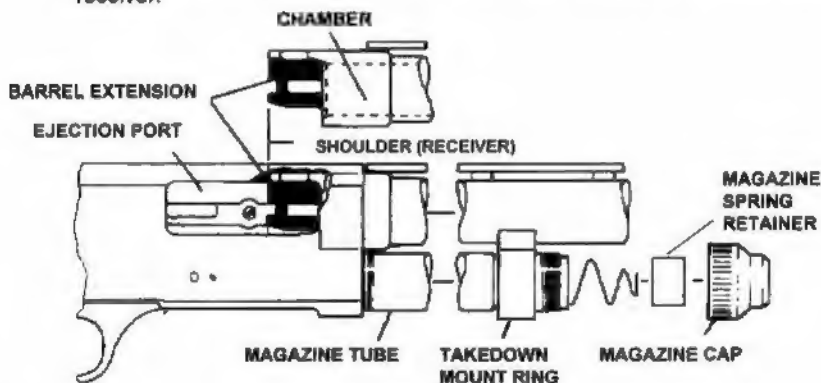

Fig. 4
Slide the barrel takedown mount ring over the magazine tube while guiding the barrel extension portion of the barrel into the receiver (Fig. 4).
**WARNING:** Check to be certain that the barrel is fully seated into the receiver by looking through the ejection port. The barrel extension must rest firmly against the corresponding cut in the top of the receiver as shown in Figure 4.
Inspect the chamber and bore of the barrel for any obstruction, excessive oil or grease. The chamber is the rear portion of the barrel which contains the cartridge (Fig. 4). Failure to do so may result in gun damage and/or personal injury when the shotgun is fired.